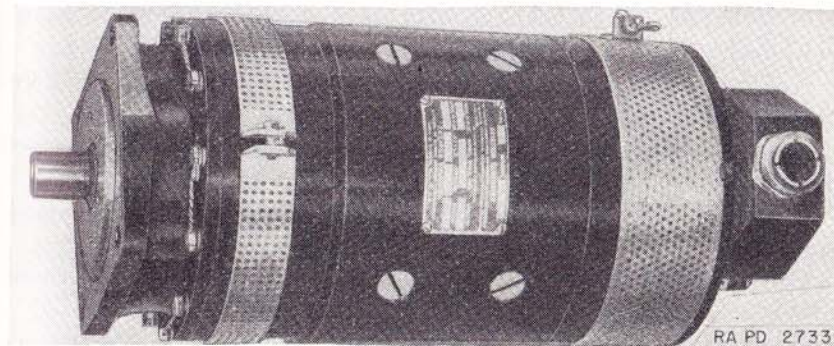

FIGURE 27.—Generator.
(3) Remove the locking wire or cotter keys and the nuts holding the starter to the accessory case.
(4) Remove the starter.
(5) To replace the starter reverse the above procedure.
**53. Generator** (fig. 27).—*a. Description.*—The generator is flange-mounted on the accessory case below the starter and is held in place by four bolts. The voltage control box described in paragraph 103 controls the current output of the generator.